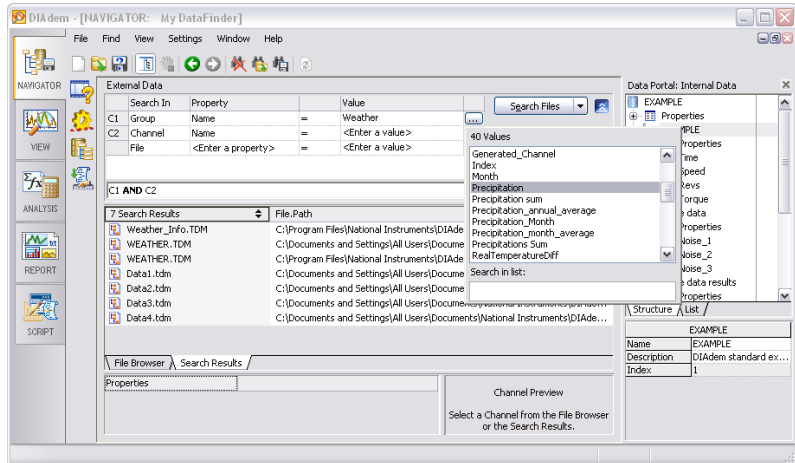

Figure 2-2. Selection List with the Channel Names of the Indexed Data
1. Click the **Advanced Search** button shown on the left to specify the search results more accurately, as shown in Figure 2-2.
- b. Click the button with the three dots at the end of the same row. DIAdem lists the names of all the groups found, as shown in Figure 2-2.